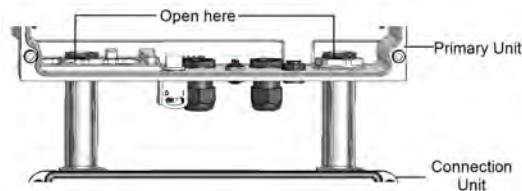

Figure 46: Conduit nuts
- 6. Unscrew the two conduit nuts in the Primary Unit securing the Connection Unit to it, see *Figure 46*.